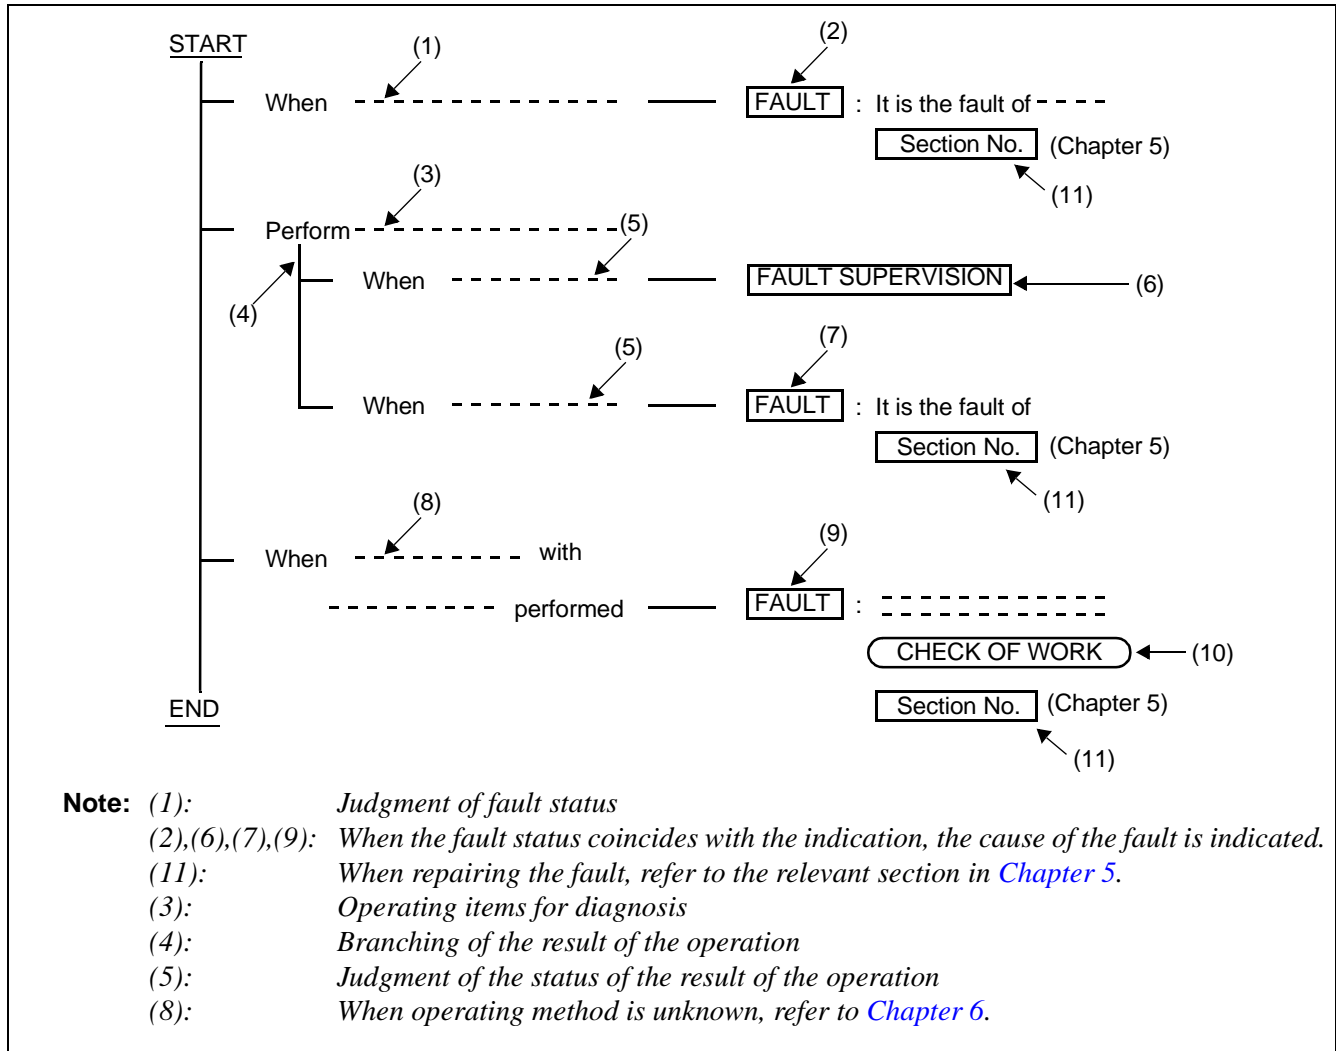

Figure 2-33 Diagnostic Work Items and Symbols Example
- How to proceed with the diagnosis work is explained in Figure 2-33.
STEP 1 Determine whether the fault coincides with the fault status (1) in Figure 2-33.
STEP 2 If the fault status does coincide, the fault is indicated by (2). Repair the fault by referring to the relevant section in Chapter 5. Otherwise, proceed to (3).
STEP 3 Perform the work indicated by (3). The result of the work (3) is broken down as indicated by (4).
STEP 4 Determine whether the result of work (3) coincides with the status indicated by (5). If so, the fault(s) is/are indicated either by (6) or by (7). If not, proceed to the next Step.
STEP 5 Perform the work indicated by (8), and if the result of the work is the same as the status indicated, the fault is indicated by (9). If the fault repair work indicated by (9) affects another normal line, recheck the work as indicated by (10).